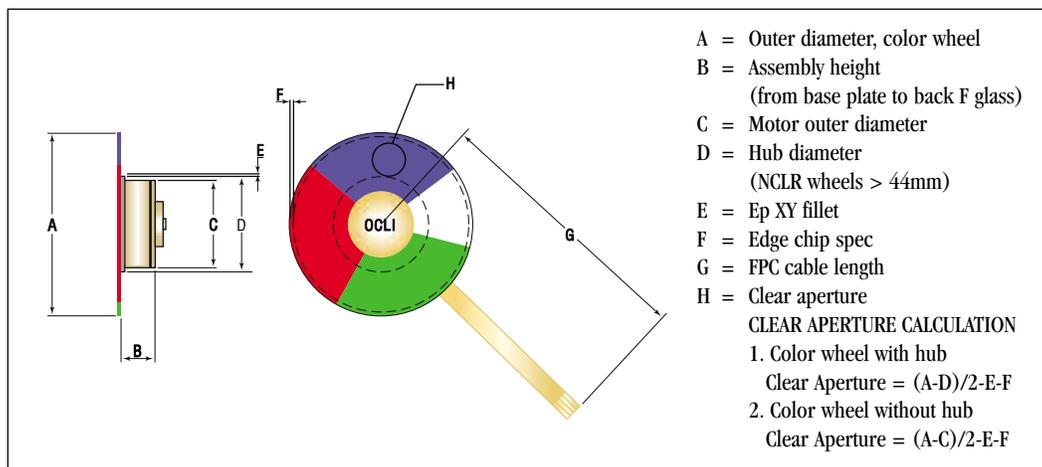

Figure 3.
- **Clear Aperture (usable dichroic area):** The usable dichroic area of the integrating rod determines the size of the clear aperture. See Figure 3 for calculation of clear aperture.